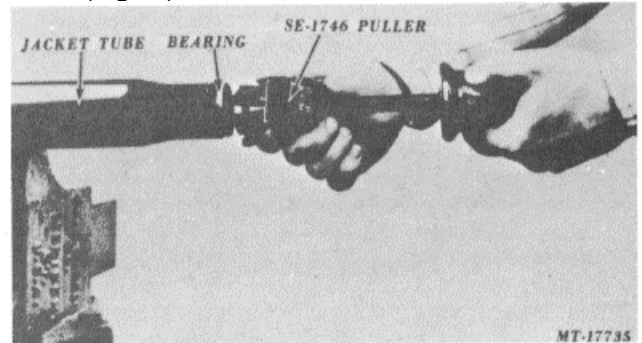

Fig. 7 Remove Steering Jacket Tube Bearings Using Puller SE-1746
4. Remove bearing using an inside puller SE-1746 (Fig. 7)